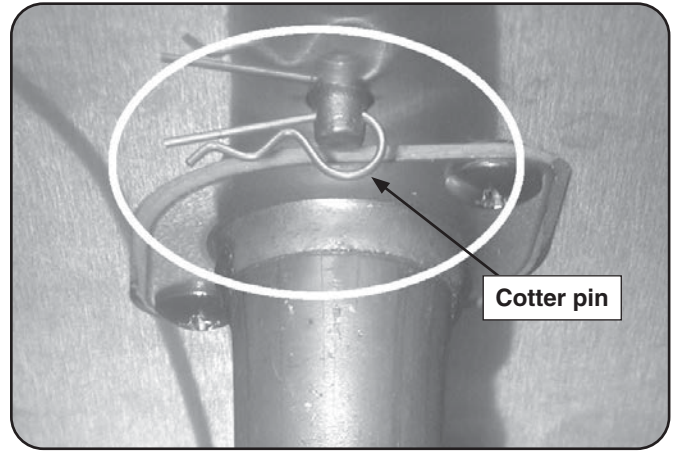

Fig. 44-1 Remove cotter pin
3. Reach up under the burner support and remove the cotter pin (see Fig. 44-1), located at the rear of the burner pipe.